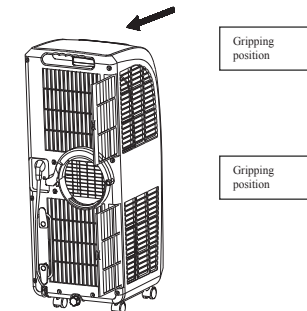

Figure 14
- 2). Hold the gripping position of the evaporator filter mesh and condenser filter mesh and take out the filter mesh gently in the direction shown by the arrow (as shown in Figure 14).